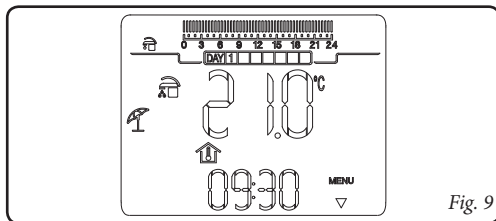

Fig. 9
- **Summer mode** (☀). In this mode the boiler is enabled for producing domestic hot water excluding heating the environment. The display shows the day and the current time, the room temperature and hour bar with daily programming of the DHW timer along with the relative symbols (fig. 9).